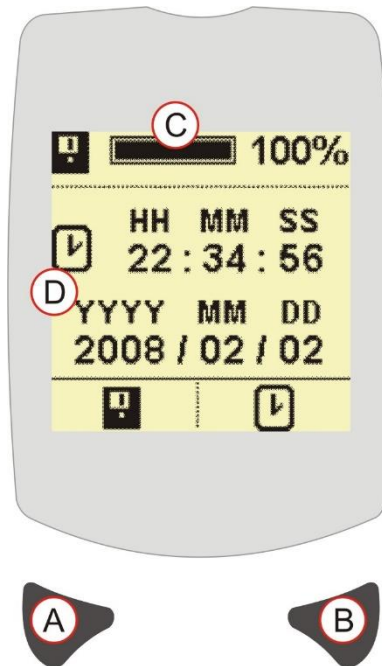

Figure 10 Time and Date Screen
The memory status in Figure 10 (C) displays 100%, meaning the memory is full. No more data can be stored. To delete the memory press the Left key (A) to access the Memory Deletion Screen (Refer to MEMORY DELETION SCREEN). Ensure any measurements are downloaded via dB24 prior to deletion.
Figure 10 (D) shows the time and date currently set within the instrument. Press the Right key (B) to access the Set Time and Date screen (Refer to SET TIME AND DATE SCREEN).